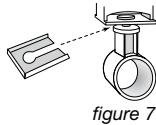

figure 7
- b. *Lined drapery with snaps:* Begin snapping pendants into track (a flathead screwdriver may help), alternating folds front to back. You will need to insert a horseshoe clip from the side over each carrier to lock it in place (figure 7).